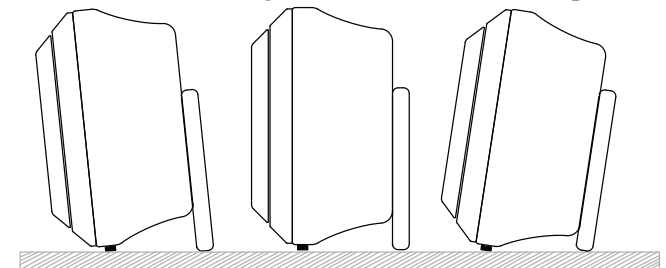

Figure 4
6. The vertical angle of the XCS200 may be changed  $\pm 5.5$  Degrees from perpendicular, allowing the sound to be directed upwards or downwards to accommodate the seating arrangement in the room. Refer to figure 4. This can be accomplished